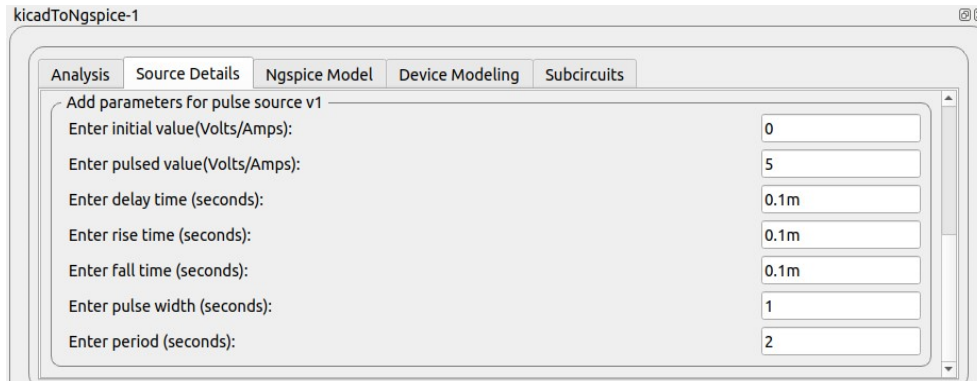
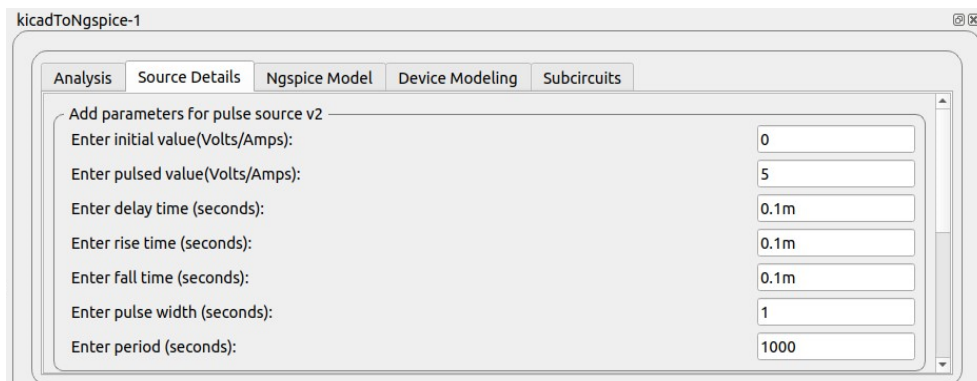

Figure 10.33: Values for Source v1
Figure 10.34: Values for Source v2
2. Now click on Source Details and enter the values for Source v1 and Source v2 as shown in Fig. 10.33 and Fig. 10.34